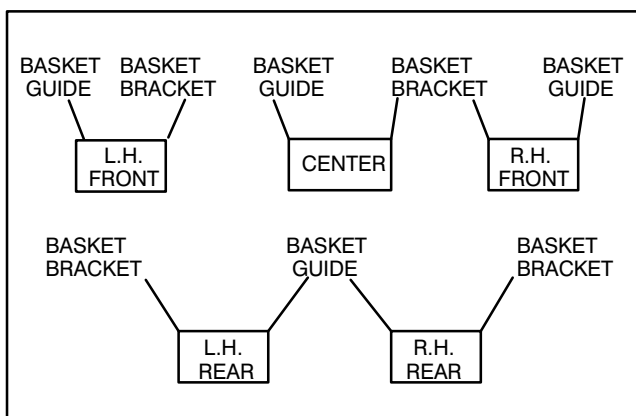
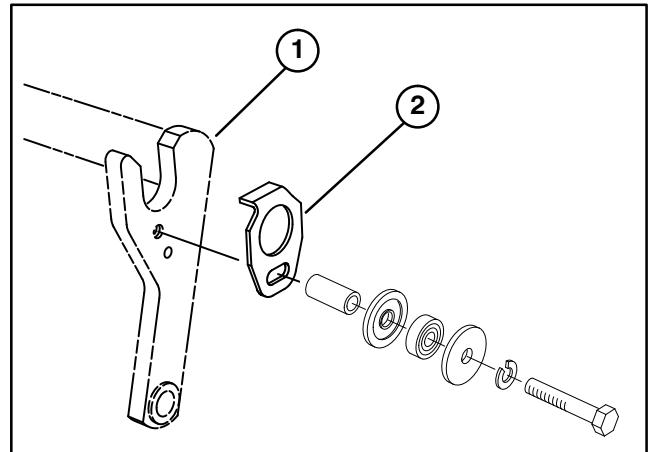
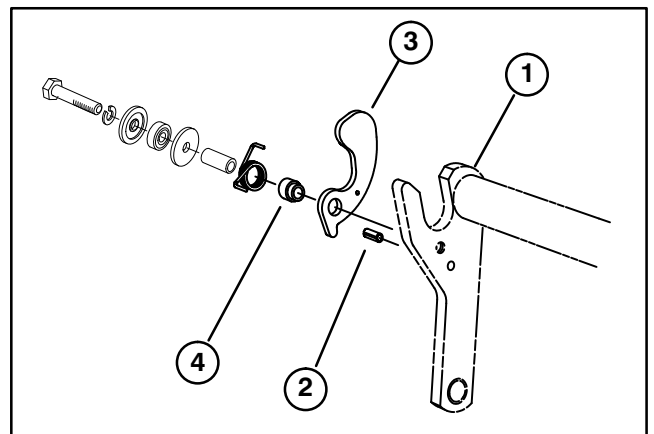
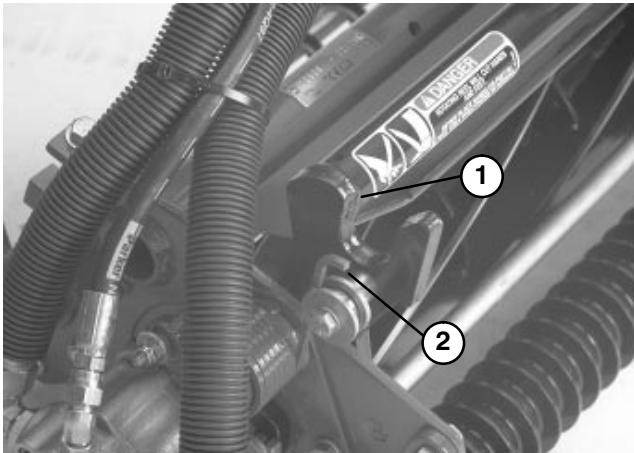

Figure 5
Figure 6
Figure 7
Figure 8
2. If baskets will be installed, use chart below (Fig. 5) to determine locations at which basket guides or basket brackets must be mounted to cutting unit carrier frames. If baskets are not to be installed, proceed to step 7.
3. Remove hardware securing Turf compensation kit to each end of carrier frame (Fig. 6 & 7) and reuse when installing basket guides and basket brackets.
4. Mount a basket guide (Fig. 6) to the appropriate side of each cutting unit carrier frame (see figure 7) with a 5/16-18 x 1-3/4" lg. capscrew, flatwasher and lockwasher or fasteners previously removed, as shown in figure 6.
5. Install a roll pin (Fig. 7) into hole in appropriate side of each cutting unit carrier frame (Fig. 5).
6. On the same side of carrier frame as roll pin is installed, mount a basket bracket with a 5/16-18 x 1-3/4" lg. capscrew, lockwasher, flatwasher, torsion spring, basket collar or fasteners previously removed, as shown in figure 7. Torsion springs are different for L.H. and R.H. sides of carrier frames. Three are (2) L.H. and (3) R.H. springs. Longer leg of spring is to be positioned forward as shown in Fig. 8.